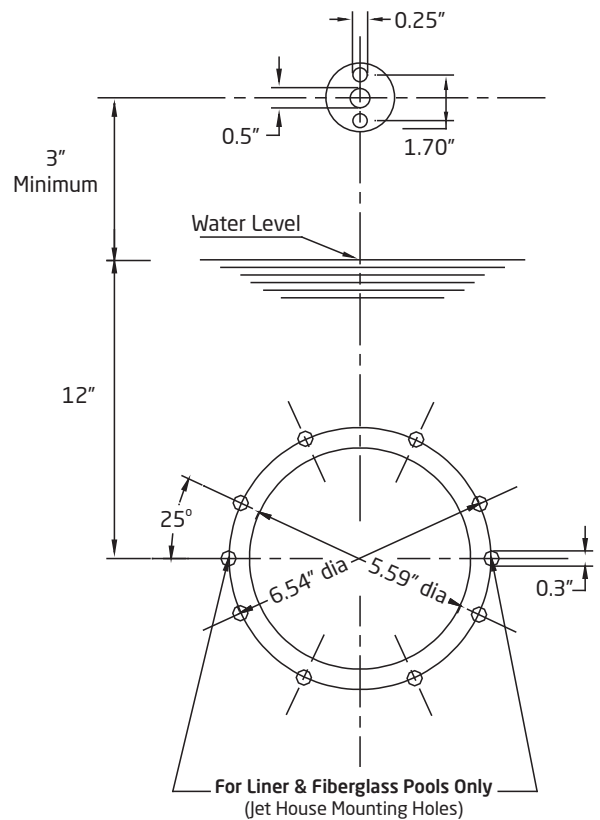

Figure 14
1. Using the clamping ring (part #3) as a template, drill holes in the pool wall for installation. The center line of the clamping ring should be 12" **BELOW** the water level (See Figures 14 & 15). Two additional holes will need to be drilled at the 3 and 9 o'clock positions for installation of the jet housing (part #7). The four brass inserts in the clamping ring should be at the 2, 4, 8 and 10 o'clock positions (See Figure 14).
2. Mount the housing (part #7) and one clamping ring gasket (part #12) on **BEHIND** the pool wall using two (2) #14 x 1" counter sunk screws (part #27). Install the screws from the inside of the pool wall through the holes drilled at 3 and 9 o'clock positions. (See Figure 14)
3. Install the clamping ring (part #3) and a second clamping ring gasket (part #12) in **FRONT** of the pool wall using eight (8) M6 screws (part # 9/2, 9/3, or 9/4). Screw lengths vary depending on the installation. *NOTE: A good RTV silicone may be used with the gasket when mounting the jet housing, but in most cases is not necessary. Installer should decided whether or not the silicone is necessary.*
4. For the air regulator assembly, one 1/2" hole must be provided, preferably along the vertical axis, approximately 3-4" **ABOVE** the water line. (See Figures 14 & 15). Using the 60 x 11 x 2mm air regulator gasket (part #21), mark and drill two 1/4" mounting holes (See Figure 14). Use the two (2) 1/4 - 20 air holder screws (part #18) and two 1/4-20 air holder nuts (part #19) to mount the air regulator holder.
6. Once the pool is complete, install the square cover (part #8) using the four (4) square cover screws (part #9/1).
**For Steel Walled Pools:** An optional butterfly gasket (part #12.1) maybe purchased to replace the two (2) clamping ring gaskets (part #12). Increase the jet housing hole in Figure 14 from 5.59" to 5.75" for installation.